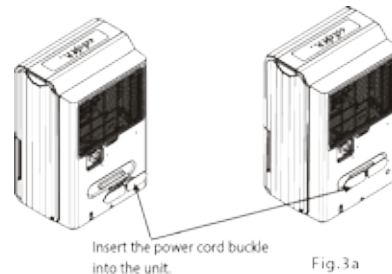

Fig.3a
- ① Continuous drain hose outlet
- ② Caster
- ③ Power Cord and plug
- ④ Power cord buckle (placed in the water bucket, used only when storing the unit. Installed as shown Fig.3a))
- ⑤ Pump drain hose outlet(some models without)
- ⑥ Air outlet grille
- ⑦ Air filter